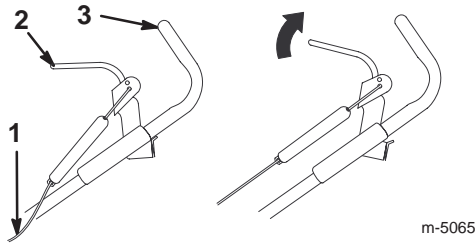

Figure 8
2. Move the control bar back toward the handle until you remove the slack in the cable (Fig. 8).